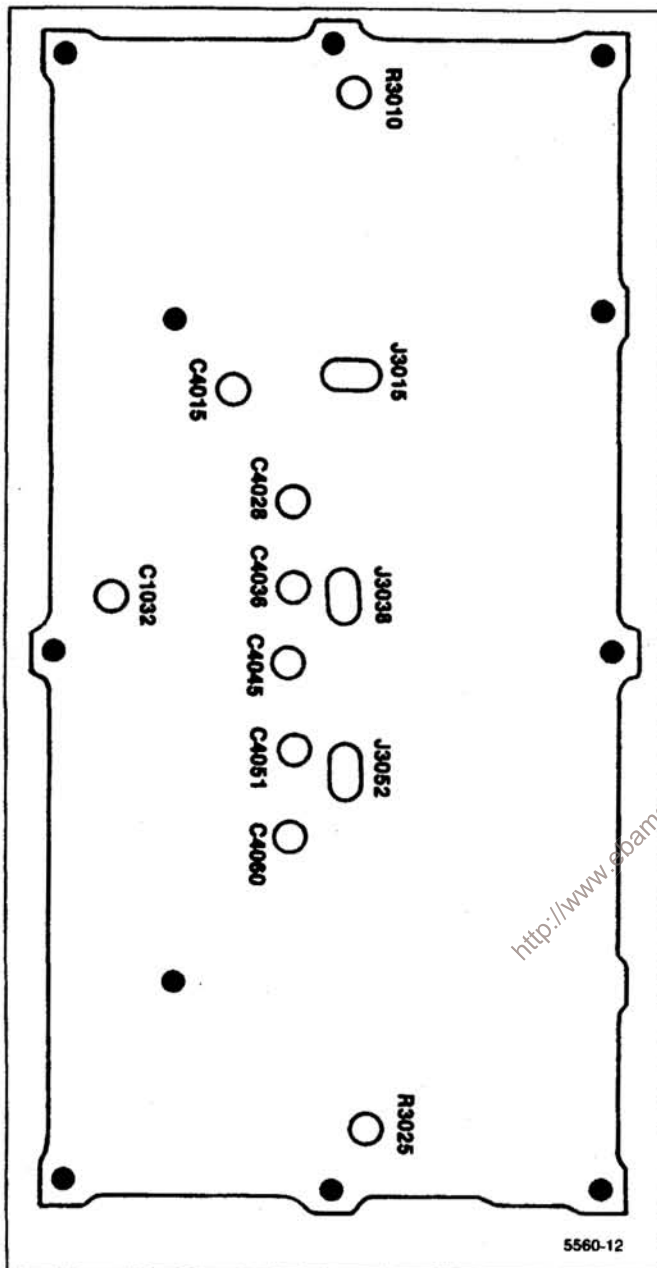

Figure 5-18. Adjustments on the 10 Hz/100 Hz Bandpass Filter assembly.
- (1) Set the following adjustments to midrange: R4025 on the VR 2nd Filter Select board, and R3010 and R3025 in the 10 Hz/100 Hz Bandpass Filter assembly.
- (2) Install jumpers on J3015, J3038, and J3052 in the 10 Hz/100 Hz Filter assembly (Figure 5-18).
- (3) Apply the CAL OUT signal to the RF INPUT, and set the Spectrum Analyzer controls as follows:
- (5) Set TIME/DIV to 50 ms. (6) Adjust R3010 in the 10 Hz/100 Hz Bandpass Filter assembly (Figure 5-18) for maximum signal amplitude.
- (7) Adjust R3025 in the 10 Hz/100 Hz Bandpass Filter assembly for maximum signal amplitude.
- (8) Remove the jumper from J3015 (1st stage of the bandpass filter) in the 10 Hz/100 Hz Bandpass Filter assembly.
- (9) Adjust C1032 in the 10 Hz/100 Hz Bandpass Filter assembly for maximum signal amplitude.
- (10) Set the Spectrum Analyzer controls as follows: